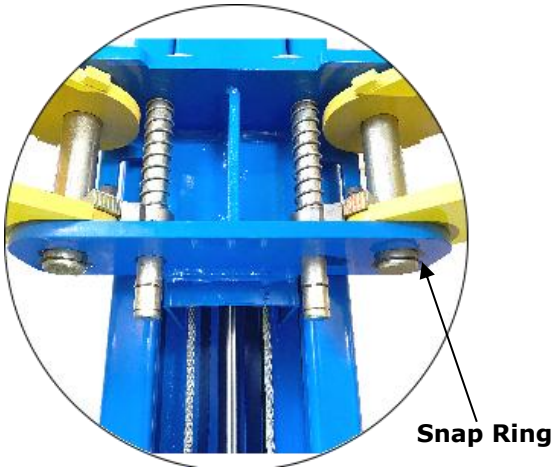

Fig. 37
1. Install the lifting arms (**See Fig. 37**).